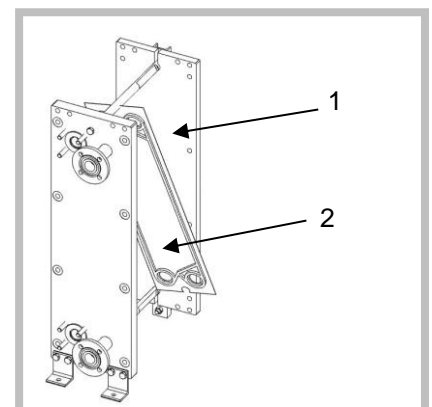

Figure 36
2. A second person should secure the heat exchanger plates against slippage. Push an individual plate in the direction of the frame cover [1] and bend it diagonally (Figure 36). Swing the heat exchanger plate [2] out laterally.